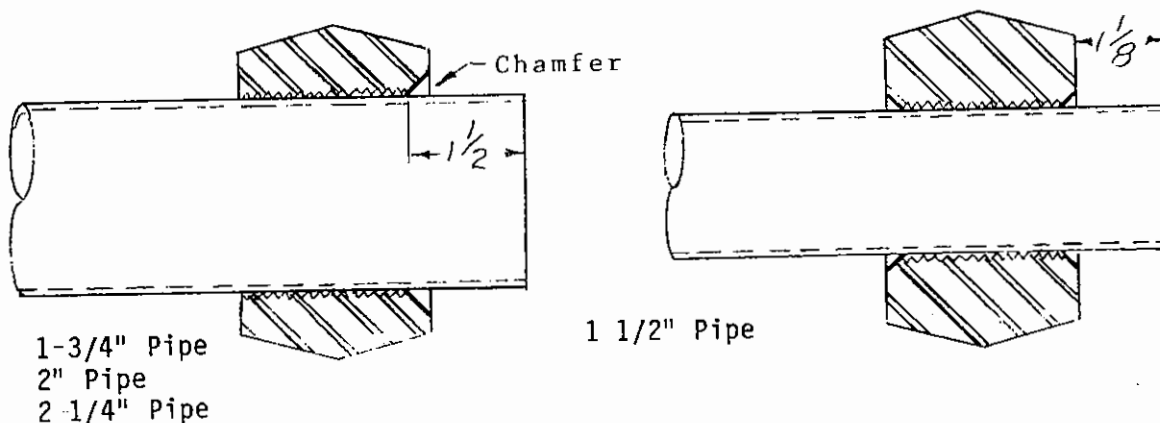

Figure 12
E.) Select the proper size when collet and clamp the pipe securely in the vise. **NOTE:** When forming the 1-3/4", 2" and 2-1/4" x 45 degree crimp, make certain the deep chamfered inside edge of the collet is toward the tool). (See Fig. 12#).